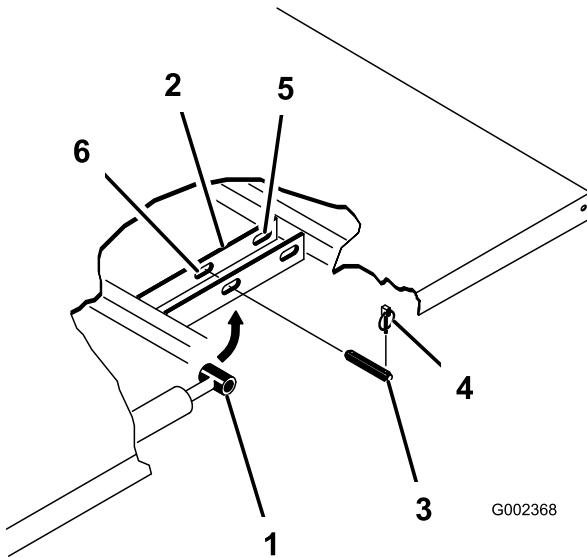

Figure 32
3. Remove the lynch pins from the outer ends of the cylinder rod clevis pins (Figure 32).
4. Remove the clevis pins securing the cylinder rod ends to the bed-mounting plates by pushing the pins towards the inside (Figure 32).
5. Remove the lynch pins and clevis pins securing the pivot brackets to the frame channels (Figure 32).